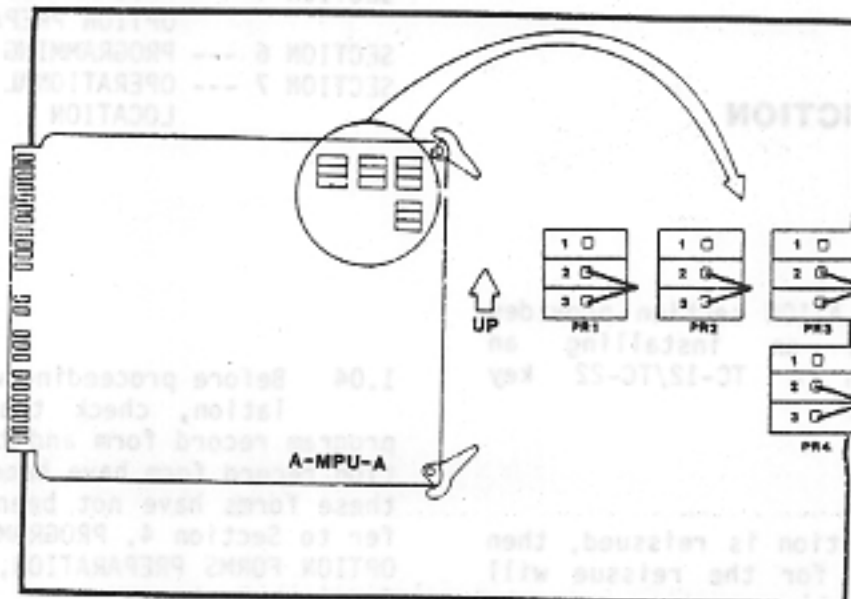

Figure 5-1 A-MPU-A Strapping.
2.01 Remove the A-MPU PCB and strap as shown in figure 5-1. Reinstall the A-MPU PCB.